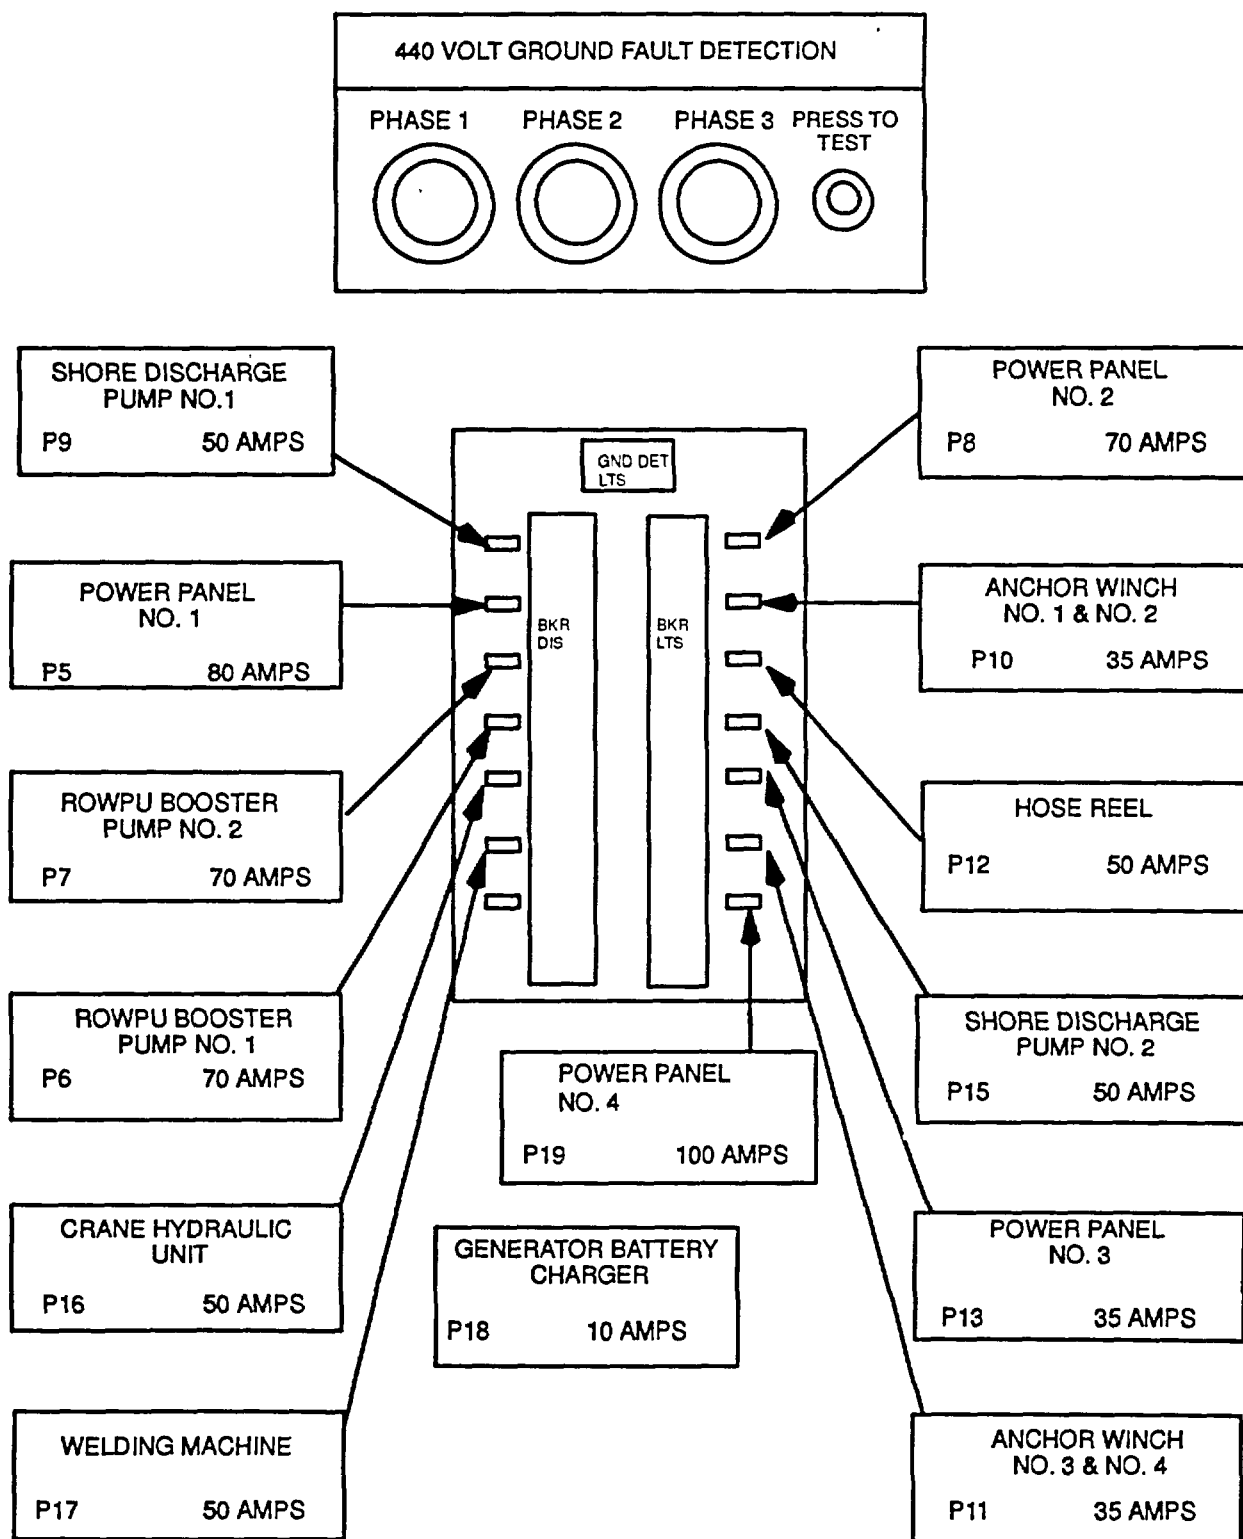
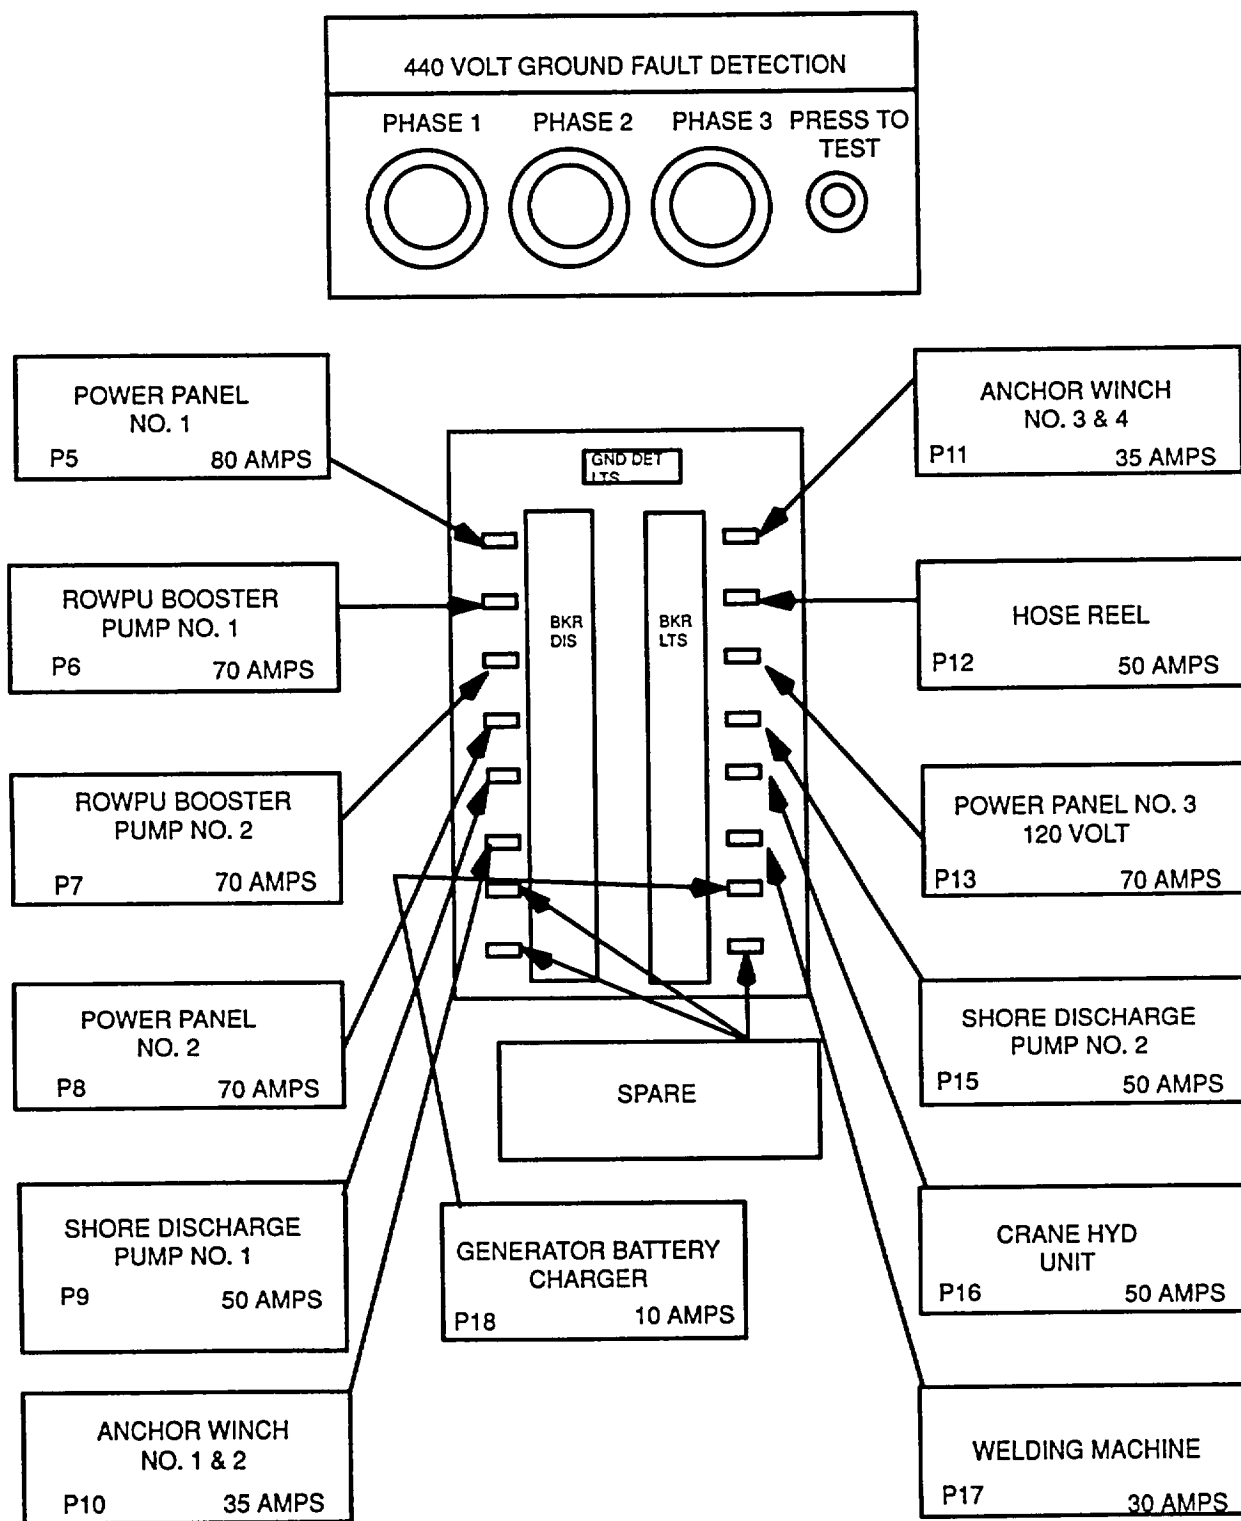

Figure 3-12. Switchboard Distribution Panel (Barge 1)
Figure 3-13. Switchboard Distribution Panel (Barges 2 and 3)
3-7.1.3 Switchboard distribution panel. This panel (Figure 3-12 and Figure 3-13) controls two functions: fault detection panel and power distribution panel.
- (3) 440 VOLT GROUND DETECTION lights do not light (Figure 3-12 or 3-13).
- l. Apply load by dosing (ON), as required, switchboard circuit breakers P5 thru P13 and P15 thru P18 (Figure 3-13) one at a time.
- m. Close (ON) circuit breaker P8 (Figure 3-12) to provide power to power panel 2. Start void(s) 4 port and/or starboard exhaust fans to provide ventilation in generator area. Close (ON) circuit breaker 9P8 for void 4 starboard ventilation and circuit breaker 10P8 for void 4 port ventilation (Figure 3-4).
- b. Verify that all loading circuit breakers (Figure 3-12 or 3-13) on switchboard are open (OFF). Electrically, a dead ship condition must exist prior to engaging shore power circuit breaker.